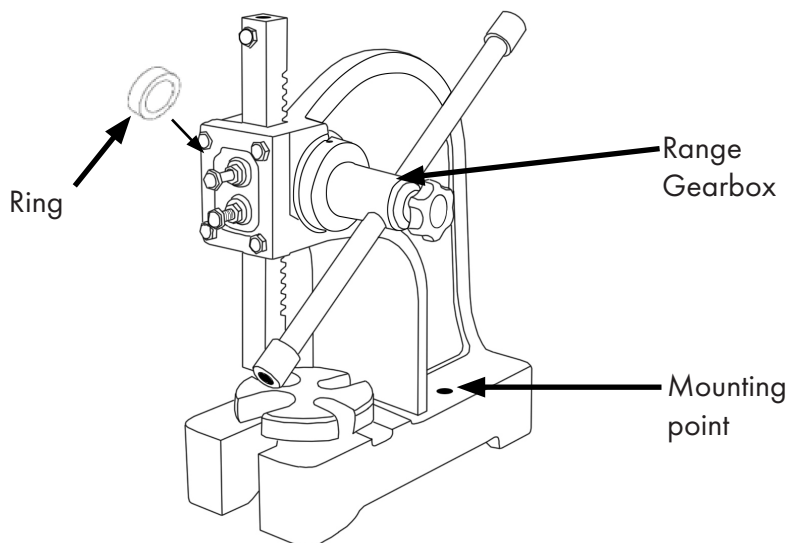

Figure 2
- Insert the gear part of the handle into the side of the arbor press as shown in Fig. 2
- Slide the ring onto the protruding end of the gear wheel, as shown in Fig. 2